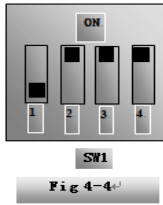
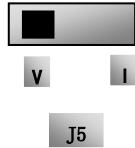

Fig 4-4
Fig 4-5
- (5) There is a red four-digit coding switch SW1 near the control terminal block of EM30 series, as shown in Figure 4-4. The function of coding switch is to select the analog input terminals AI1 and AI2, input range(0~5V/0~10V/0~20mA); In actual application, select the analog input channel through F203. The position of factory coding switch is showed in fig 4-4, AI1: 0~10V input, AI2: 0~20mA input; Another switches states and mode of control speed are as table 4-2.
(6) Close the switch DI3, the motor starts forward running;
(7) The potentiometer can be adjusted and set during running, and the current setting frequency of the inverter can be changed;
(8) During running process, switch off the switch DI3, then, close DI4, the running direction of the motor will be changed;
(9) Switch off the switches DI3 and DI4, the motor will decelerate until it stops running;
(10) Switch off the air switch, and power off the inverter.
- (11) There are two analog output terminals AO1 and AO2, both terminals can output voltage signal and current signal, the selecting switch of voltage/current is J5, the position of factory toggle switch is showed as below in Fig 4-5, AO1=V, AO2=I, the output relation is shown in table 4-3.